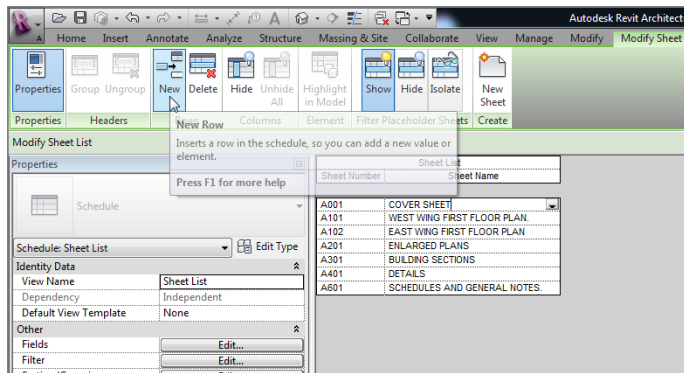

FIGURE 14.25: You can add a placeholder row.
2. On the Rows panel, click the New button, as shown in Figure 14.25.
3. Call the new row **COVER SHEET A001** (see Figure 14.25).